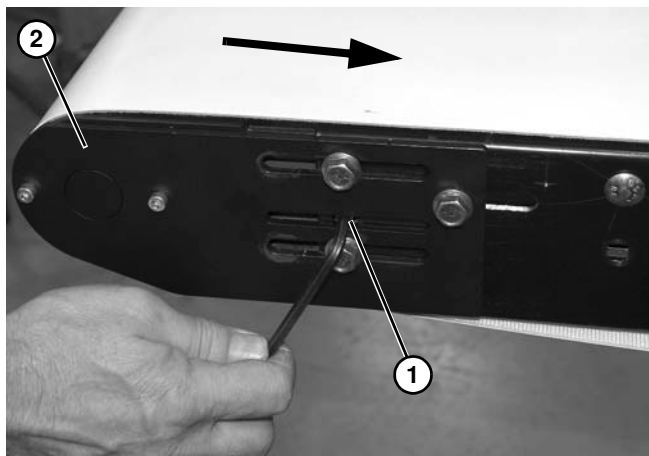

Figure 93
2. Tighten the tensioner screw (**Figure 93, item 1**) on each side of conveyor to move the tension head plate assembly (**Figure 93, item 2**) outward, or loosen to move head plate assembly inward.